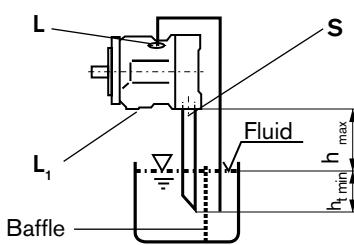

Fig. 4
Pipe port "L" and "S" acc. to fig. 4, port "L1" closed. Conditions correspond with item 1.2.1.